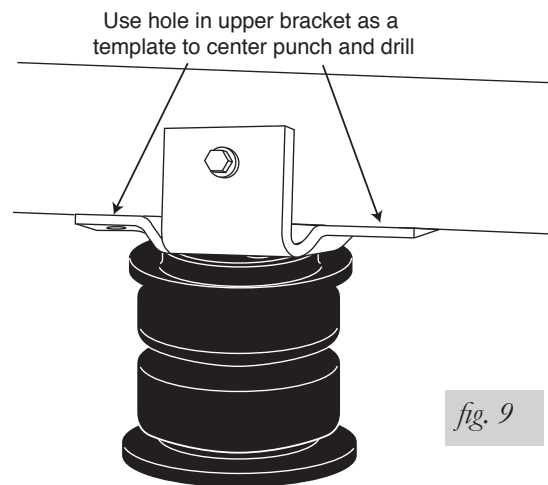

fig. 9
2. Using the upper bracket as a template center punch and drill a 3/8" hole through the outboard side of the frame rail and upper bracket (Figure 9).